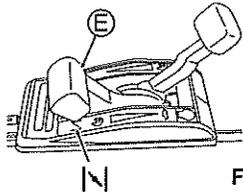

Fig. 11
- 3 Set Throttle lever (E) to Choking "N". (See Fig. 11) (The engine can start by setting the lever at "I" when it is warm.)